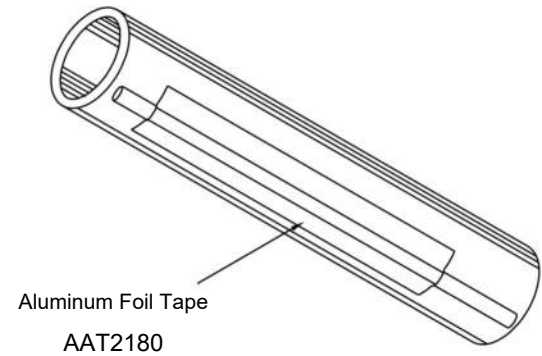

Figure 5
2. Aluminum foil tape should only be used if specified by design. The foil is most often used on plastic pipe to offset the insulate effect of the plastic. See Figure 5 above.